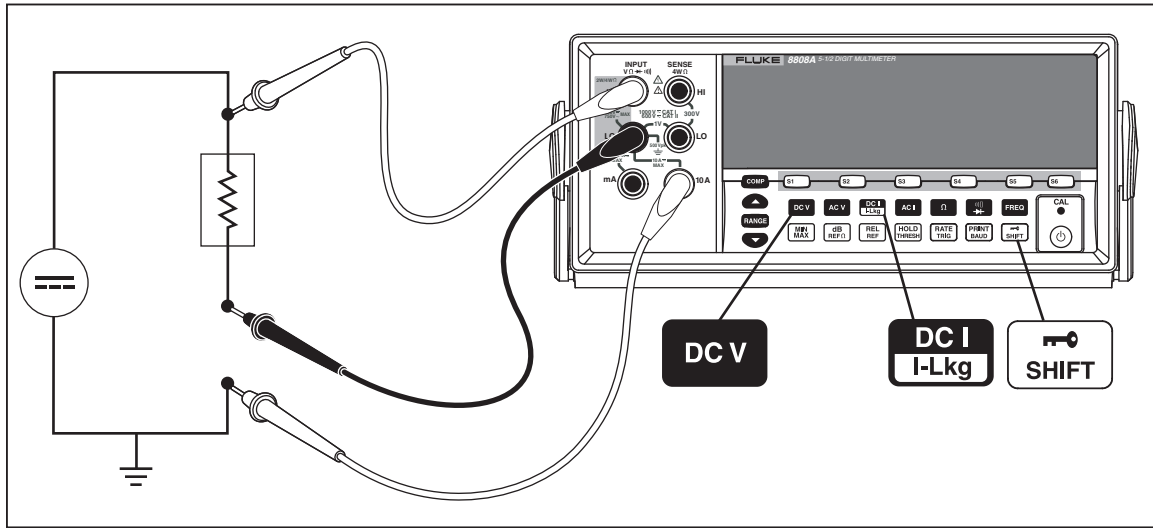

Figure A-2. DC Voltage and DC Current Measurement on Input Signal
Most applications of the dual display listed in Table A-2 can be performed using a single set of test leads connected to the **INPUT** $V\Omega \rightarrow \rightarrow \rightarrow \rightarrow$ **HI** and **LO** terminals. However, to measure the voltage and current of an input signal requires three leads. Be sure that the voltage and current measurements share the same common as shown in Figure A-2. Then simply follow the precautions you would follow if you were making normal current measurements without a current clamp.
4. Connect the leads to the test circuit as shown in Figure A-2 and read the measurements on the display. Although current will be displayed as negative, it is in fact positive when interpreted according to current flow convention.